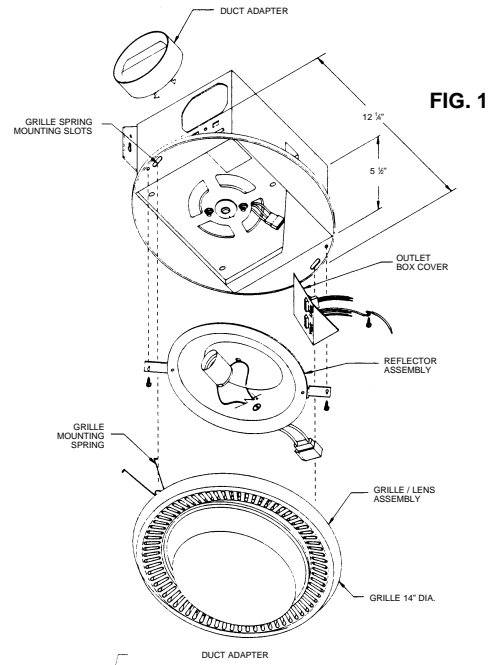

FIG. 1
1. Remove the grille assembly from the carton and set it aside until needed. Remove reflector assembly from housing by loosening two mounting screws. Rotate and remove through keyhole slots. See Fig. 1.
7. Insert the lamp plug of reflector assembly into lamp receptacle on the outlet box. Align keyhole slots on reflector assembly mounting brackets over 2 screws on housing. Rotate assembly and tighten screws. (See Fig. 1). (Models 782 and 1001 only) Install a 100 watt (maximum), type A-19 light bulb. (Model 1001F only) Install a 21 watt 2-D 4-pin compact fluorescent lamp (F212D), not provided.
8. Squeeze grille mounting springs and insert into slots in housing. (See Fig. 1). NOTE: Snap plastic lens into grille on Model 782 if not assembled. Press griled firmly into place.